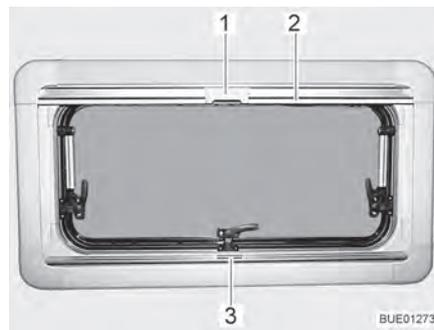
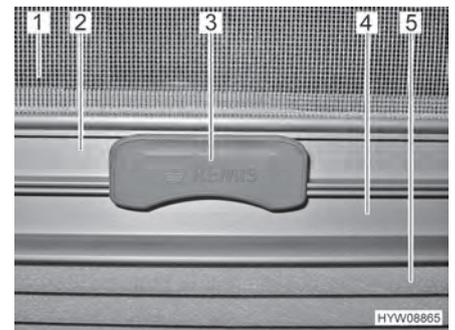

Fig. 21 Hinged window
Fig. 22 Catch
Roman shade The Roman shade (Fig. 22,5) is located in the lower blind box.
Closing: ■ Seize the Roman shade by the centre of the holding bar (Fig. 21,3 and Fig. 22,4), pull it from the bottom to the top and release it at the desired height. The Roman shade will stay at this height.
Insect screen The insect screen (Fig. 22,1) is located in the upper blind box.
Closing: ■ Pull the insect screen down by the holding bar (Fig. 21,2 and Fig. 22,2), until it touches the holding bar of the Roman shade (Fig. 22,4).
■ Clip the catch (Fig. 21,1 and Fig. 22,3) on the insect screen into the holding bar of the Roman shade. When the catch is locked, the Roman shade and the insect screen can be adjusted together.
Opening: ■ Push the catch (Fig. 22,3) on the insect screen upward.
■ Move the insect screen back slowly on the holding bar (Fig. 21,2).